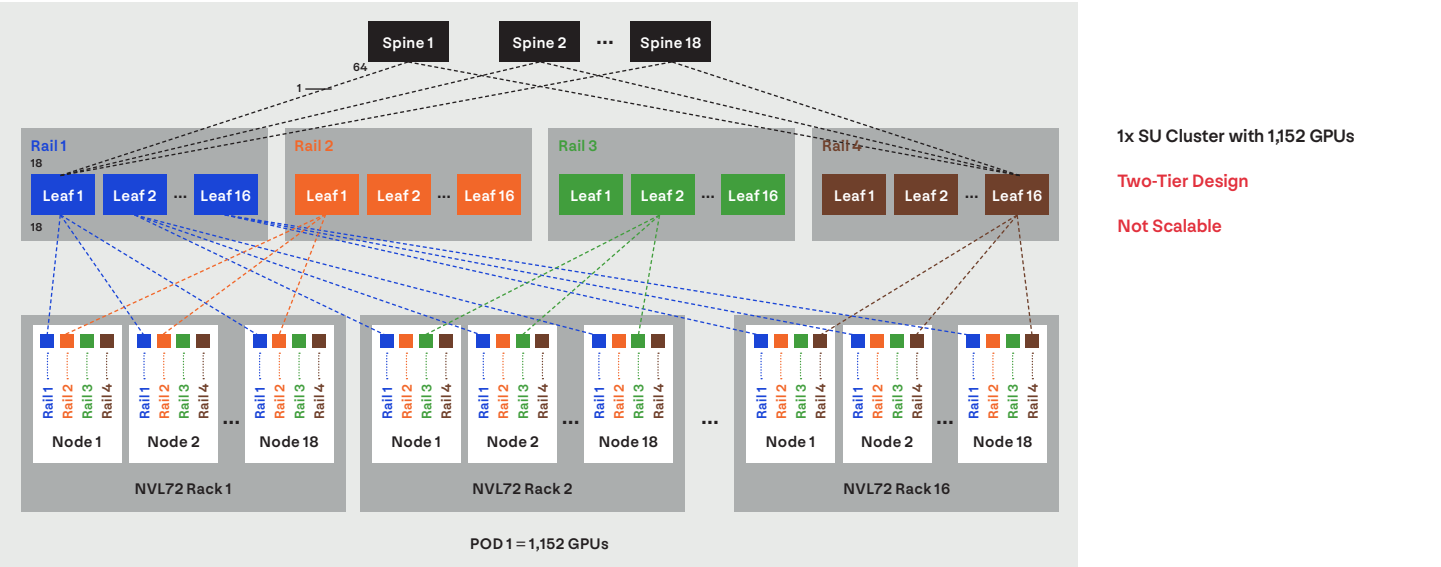

Figure 23. Compute Fabric for 1 SU (Two-Tier design, Not-Scalable) Cluster.
- 1. Non-Scalable Cluster:** This setup (Figure 23) includes 64 Leaf Switches and 18 Spine Switches, but it lacks scalability, remaining limited to a Two-Tier design:
In a Non-Scalable Cluster, each Leaf Switch receives 18 MPO connections from the servers, while each Spine Switch receives one MPO connection from each Leaf, resulting in a total of 64 MPO connections per Spine, as illustrated in Figure 23.